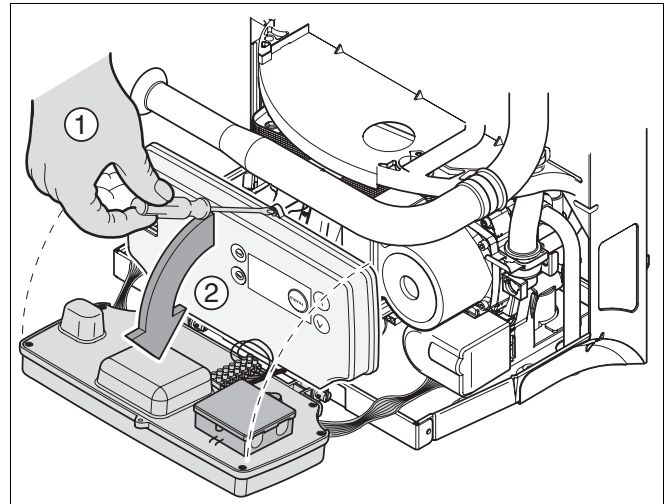

fig. 30 Lower the DBA
- Remove the securing screw of the DBA and lower the DBA (see fig. 30).